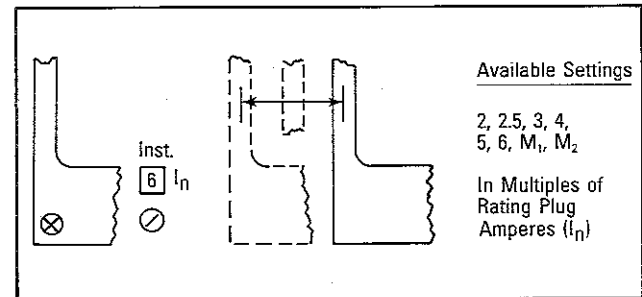

Fig. 4.5 Instantaneous Current Pickup Settings
As illustrated in Fig. 4.5, eight (8) available settings range from 2 to 6 (I_n) with two variable settings M1 and M2. These variable settings depend upon the type of circuit breaker in which the trip unit is installed. Specific information on these settings is given in the supplemental instruction leaflet referenced in Sections 9.1 and 9.2 that is supplied with the circuit breaker. Spe-